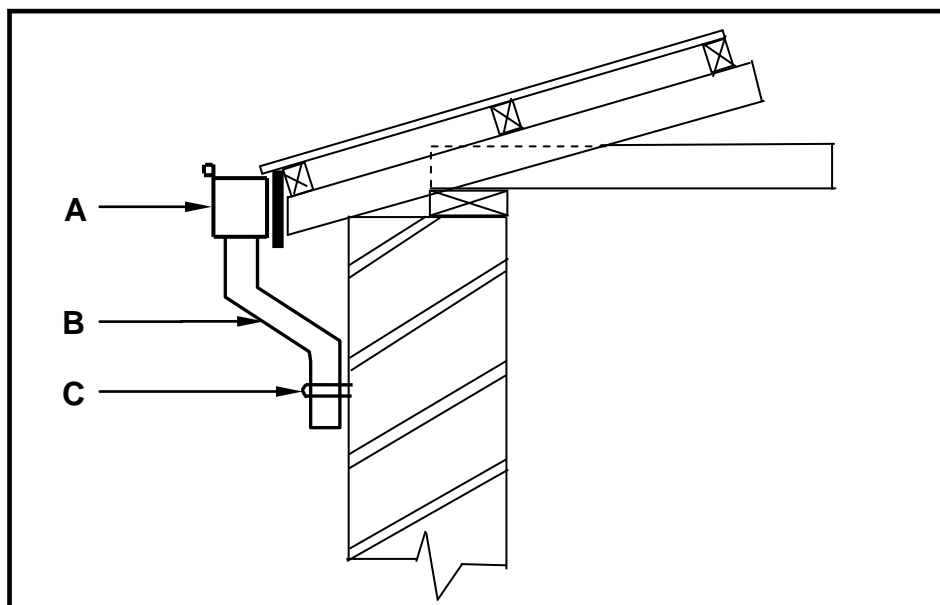

FIGURE 5.1
5.1 FIGURE 5.1 below is a sketch of a part of a gutter and downpipe installation.